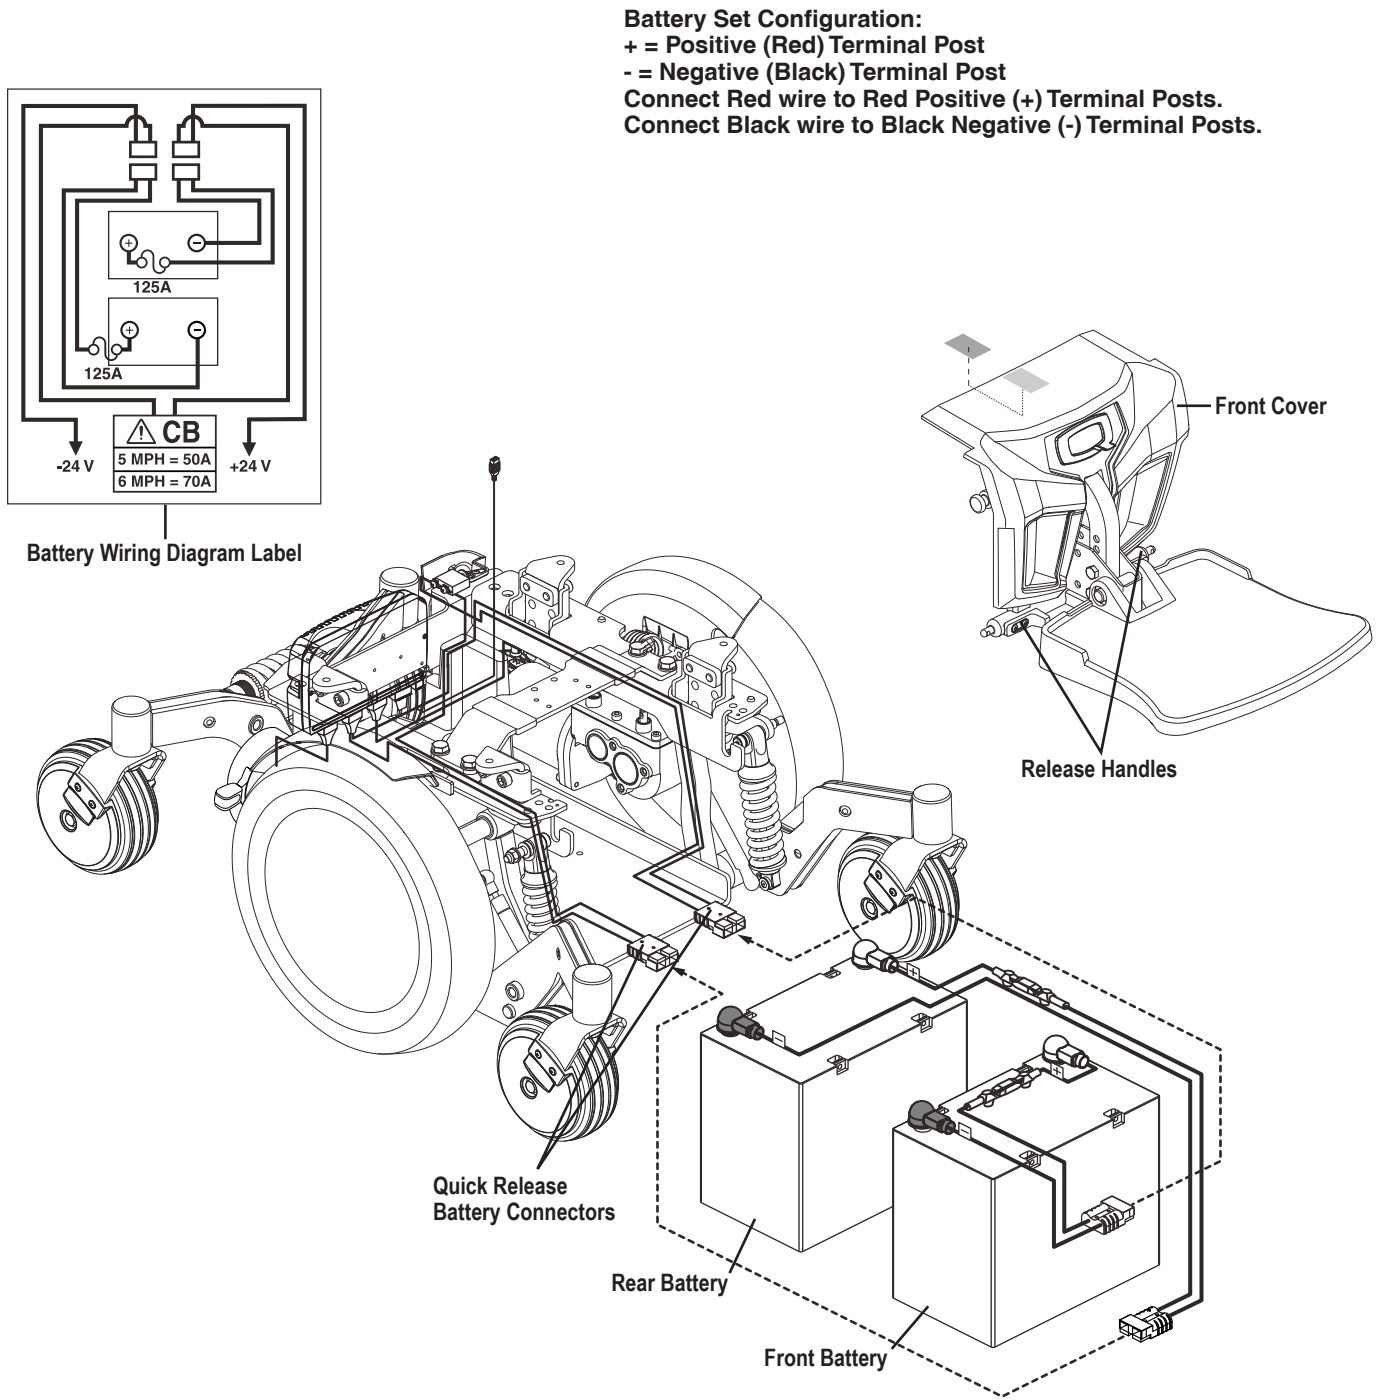

Figure 25. Battery Installation
3. Remove the front cover by squeezing the release handles (**see figure 25**) and lifting the front cover up and away from the power base.
4. Disconnect the quick release battery connectors. **See figure 25.**
7. Connect the battery harness to the new front battery according to the battery wiring diagram. **See figure 25.**
8. Connect the battery harness to the new rear battery according to the battery wiring diagram. **See figure 25.**